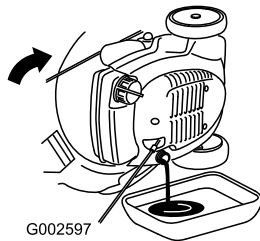

Figure 32
3. Tip the mower onto the **right** side to drain the used oil out through the oil fill tube (Figure 32).